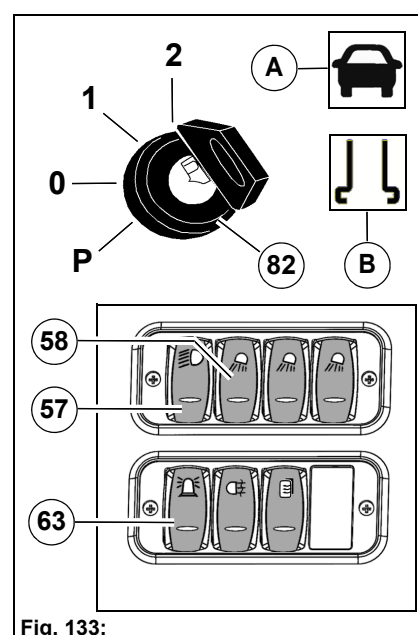

Fig. 133:
5. Drive to the work site. The transport mode information symbol **Fig. 133-B** appears in the multifunctional display.